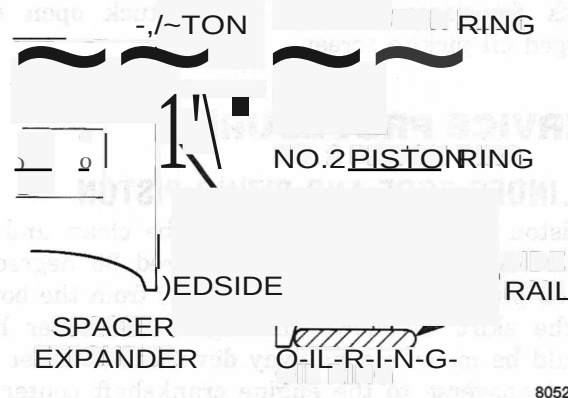

Fig. 6 Piston Ring Installation
(1) Install rings with manufacturers LD. mark facing up, to the top of the piston (Fig. 6).